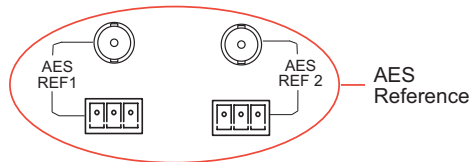

Figure 2-28. AES Reference Connection (Rear View)
- 1 Locate the AES reference connections on the rear of the router, as shown in Figure 2-28. AES reference connections are labeled 'AES REF 1' and 'AES REF 2'.